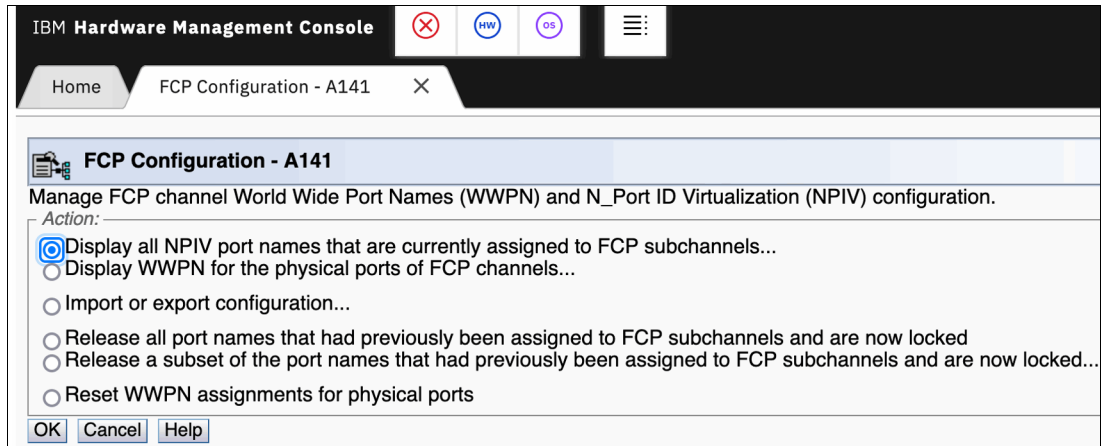

Figure 29 FCP Configuration tab
- The FCP Configuration tab will open. Leave the option set to **Display all NPIV port names that are currently assigned to FCP subchannels...** and click **OK**. See Figure 29 on page 24.